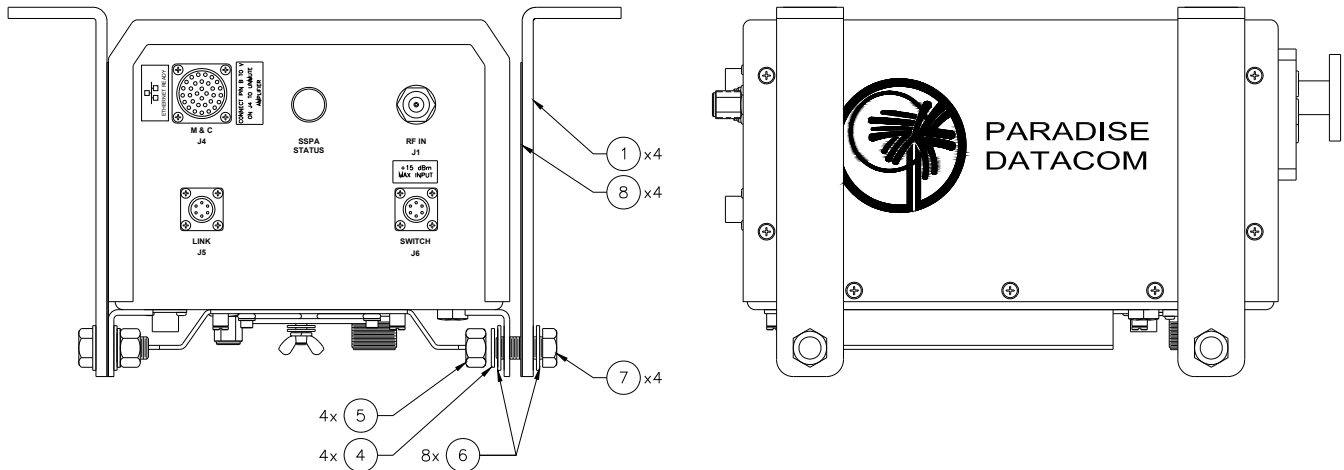

Figure 2-3: Attach Mounting Supports to Unit
1. Cut gasket (Item 8) into four (4) 1.5" x 7" pieces. Attach gasket to each support bracket (Item 1) as shown in Figure 2-3. Trim gasket around bottom corners and slot in bracket.
2. Locate the mounting studs on the bottom of the Mini Compact Outdoor SSPA unit. Using a 1/2" bolt (Item 7), two flat washers (Item 6), and a 1/2" nut (Item 5), firmly bolt one mounting bracket to each mounting stud, as shown in **Figure 2-3**. Be sure the gasket installed in Step 1 is between the bracket and the unit, that each bracket is vertical, and the top flange of the mounting bracket points away from the unit.